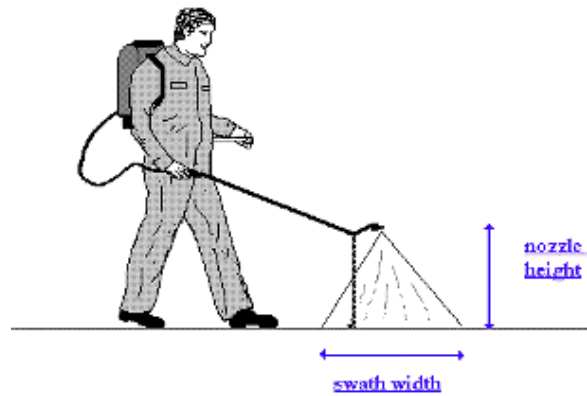

Figure 6: Test run by spraying water showing the nozzle height and swath width
5. Enter the test area and make the test run, spraying the area at the recommended pressure and speed (figure 6).